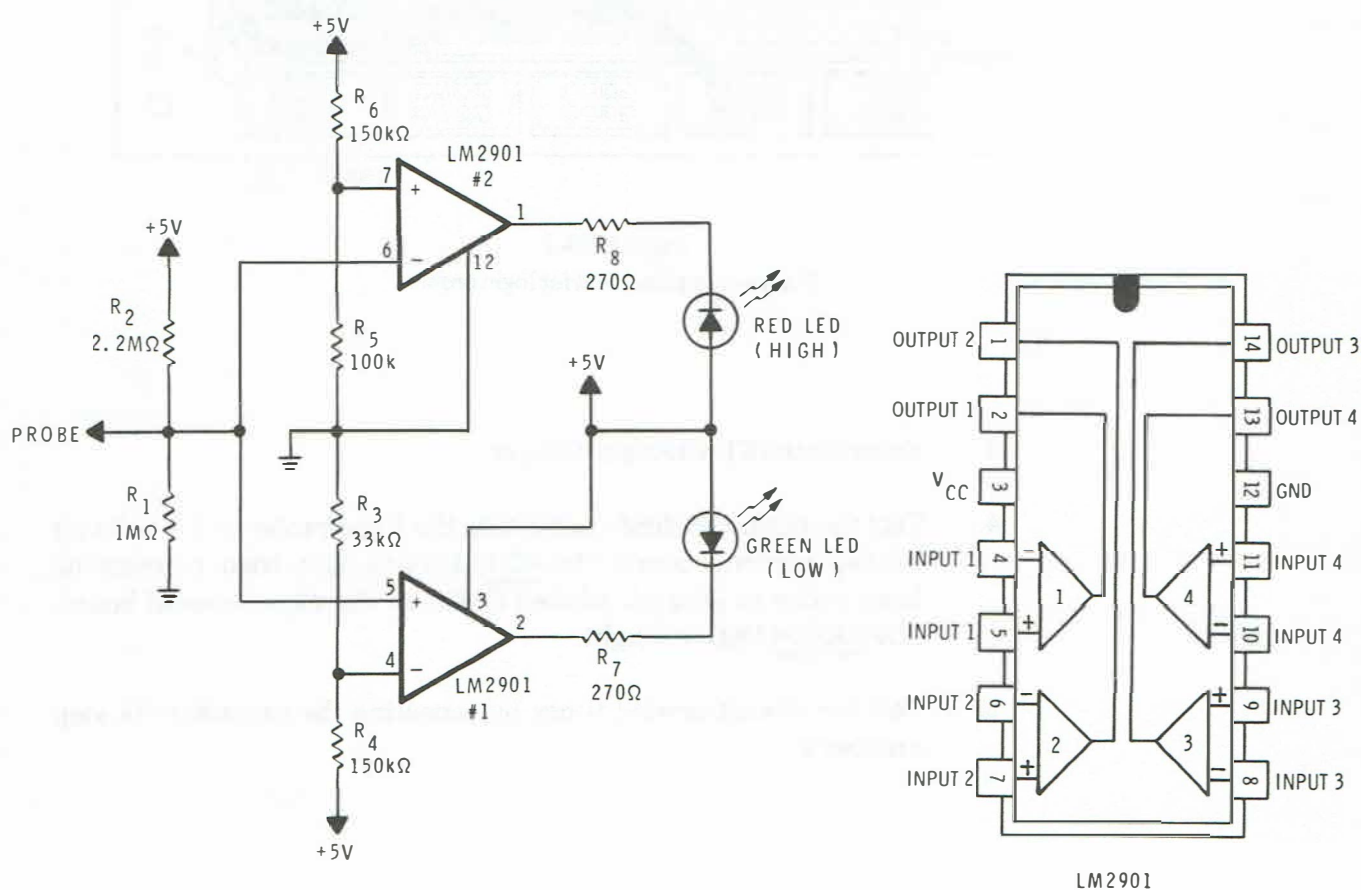
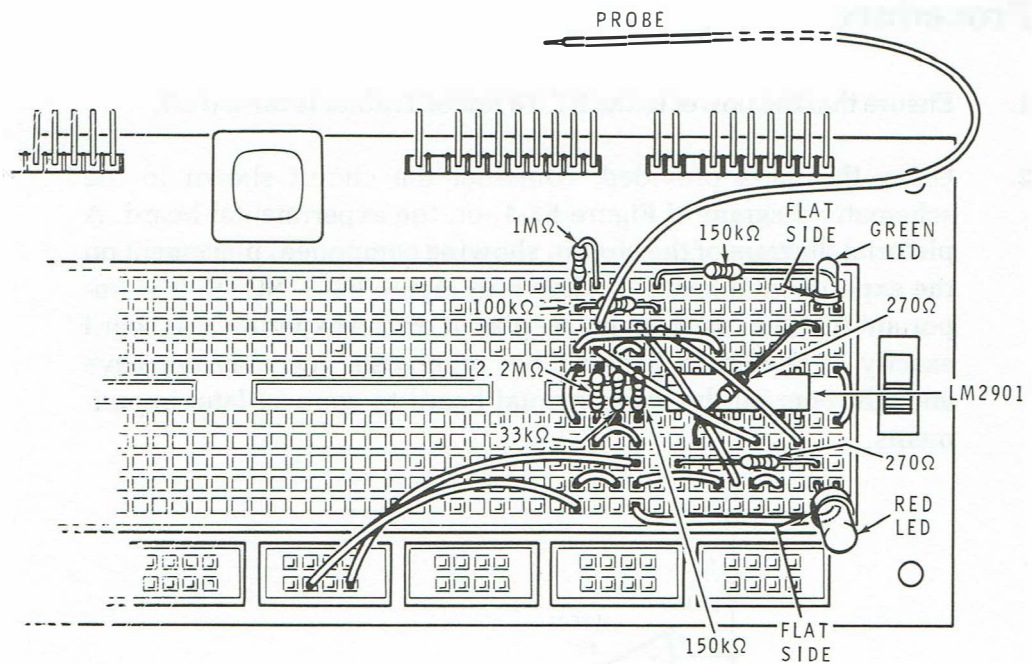

Figure E3-1
Figure E3-2
2. Using the parts provided, construct the circuit shown in the schematic diagram of Figure E3-1, on the experimental board. A pictorial diagram of the circuit, showing component placement on the experimental board, is shown in Figure E3-2. NOTE: It is important that the components be placed on the experimental board exactly as shown in Figure E3-2; otherwise, you may not have enough room on the experimental board to connect later experiments.
IC LM2901, shown in Figure E3-1, is a quad single-supply comparator designed for level detection and low-level sensing applications. However, for the logic probe application, only two of the comparators (1 and 2) are actually used.